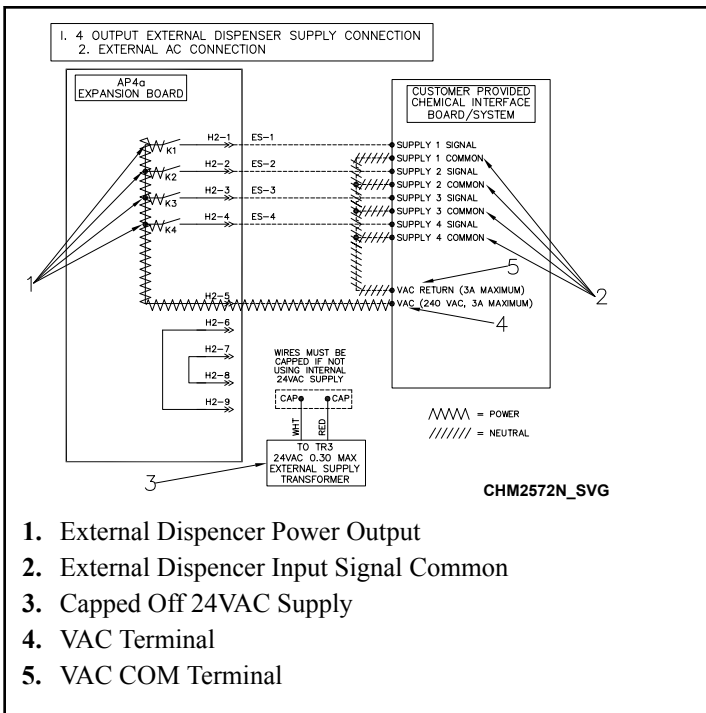

Figure 47
2. Connect one side of the external power to the “RELAY COM” and the other to the external dispenser input signals common. Refer to *Figure 46* and *Figure 47*.